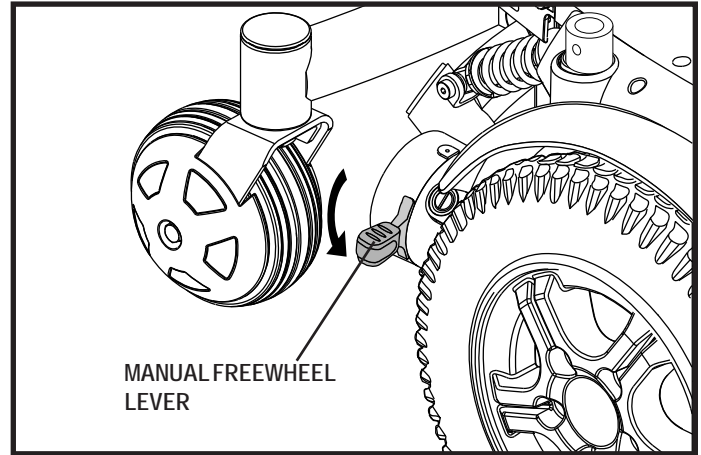

Figure 4. Drive Mode (Drive Engaged)
1. Push down both manual freewheel levers for freewheel mode (drive motor disengaged). See figure 4.